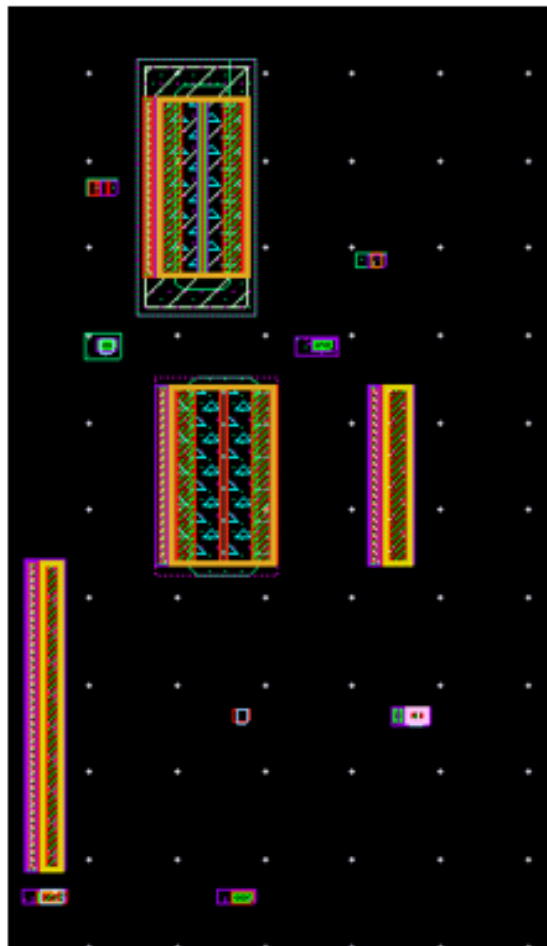

Figure 4-6. VXL Updated Layout Window Example
7. Select all the other applicable settings and click **OK** to generate the layout and pin placements. The updated layout window, as shown in the example in *Figure 4-6* on page 80, includes all the pins and instances of each cell from the schematic.